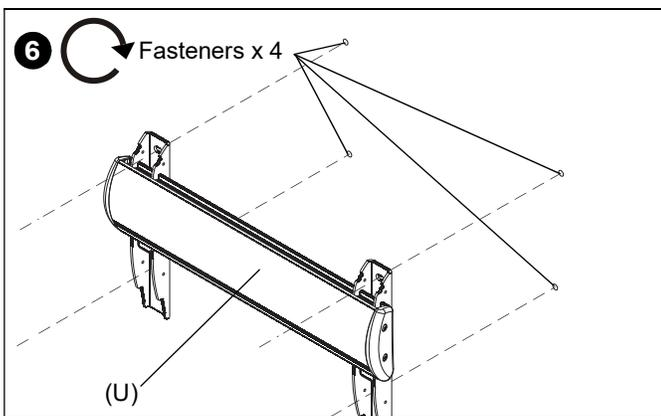

Figure 4
- Install four fasteners appropriate for wall type (See Table 1) through outer holes of projector mount wall bracket (U), into pilot holes, and tighten. (See Figure 4)